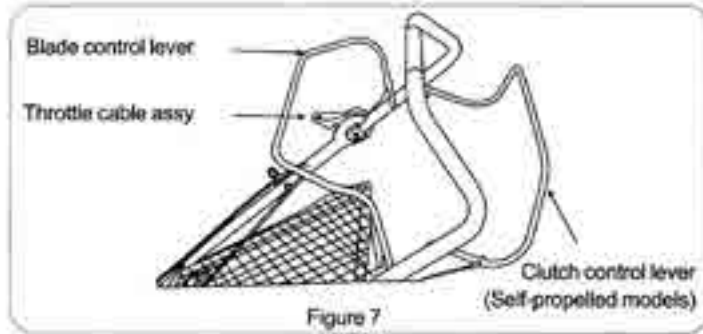

Figure 7
3. Collect the BLADE CONTROL LEVER (see Figure 7) braking the engine together with the upper handle and then start the engine.
4. Collect CLUTCH CONTROL LEVER (see Figure 7) controlling the clutch together with the upper handle and then start the engine.
5. Should change the moving direction, please release the CLUTCH CONTROL LEVER (see Figure 7), and then turn.
BLADE CONTROL LEVER (see Figure 7).